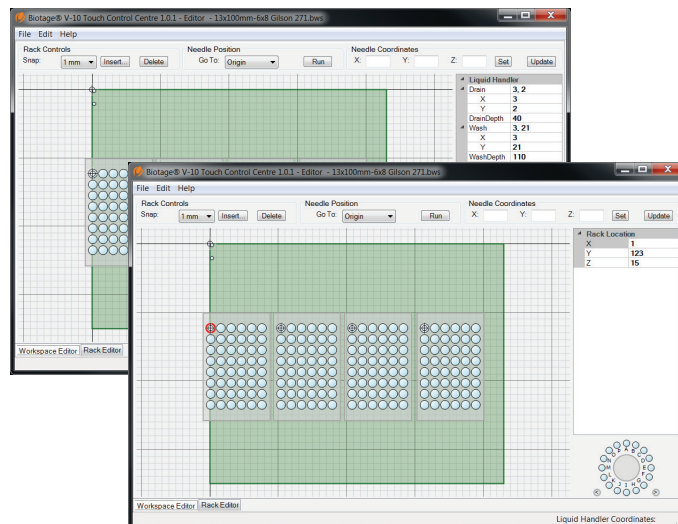

Figure 28. The workspace editor showing the liquid handler settings (top) and the rack location settings (bottom).
- » **Workspace:** The area where the needle can reach along the **X**-, **Y**- and **Z**-axes in millimeters; the green area in Figure 28. The measurements are based on the used liquid handler and cannot be changed. Gilson GX-271: 389 x 294 x 175.